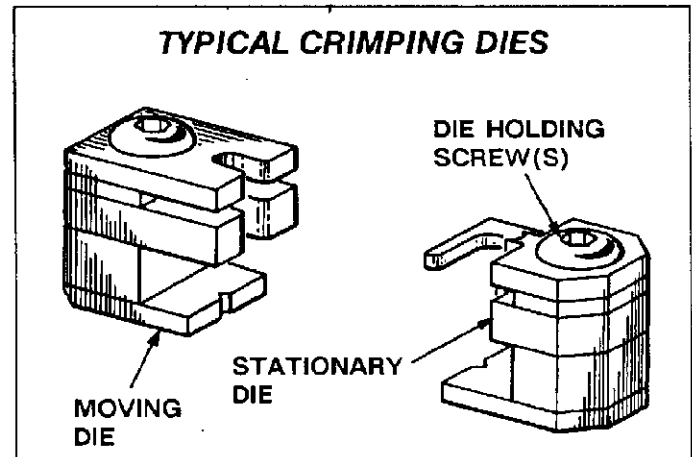

Fig. 9
1. Place crimping dies in tool. The die assemblies have multiple sets of crimping dies similar to those in hand tools. See Figure 9.